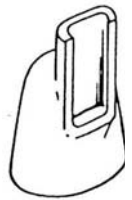

Fig. 11
6. If the abutment is to have a porcelain crown, the attachment must have at least a 0.4mm layer of alloy surrounding the female. This includes the portion extended above the occlusal surface of the casting. This layer will prevent porcelain from contacting the attachment surface. If porcelain touches the attachment, chipping may occur (Fig. 11).